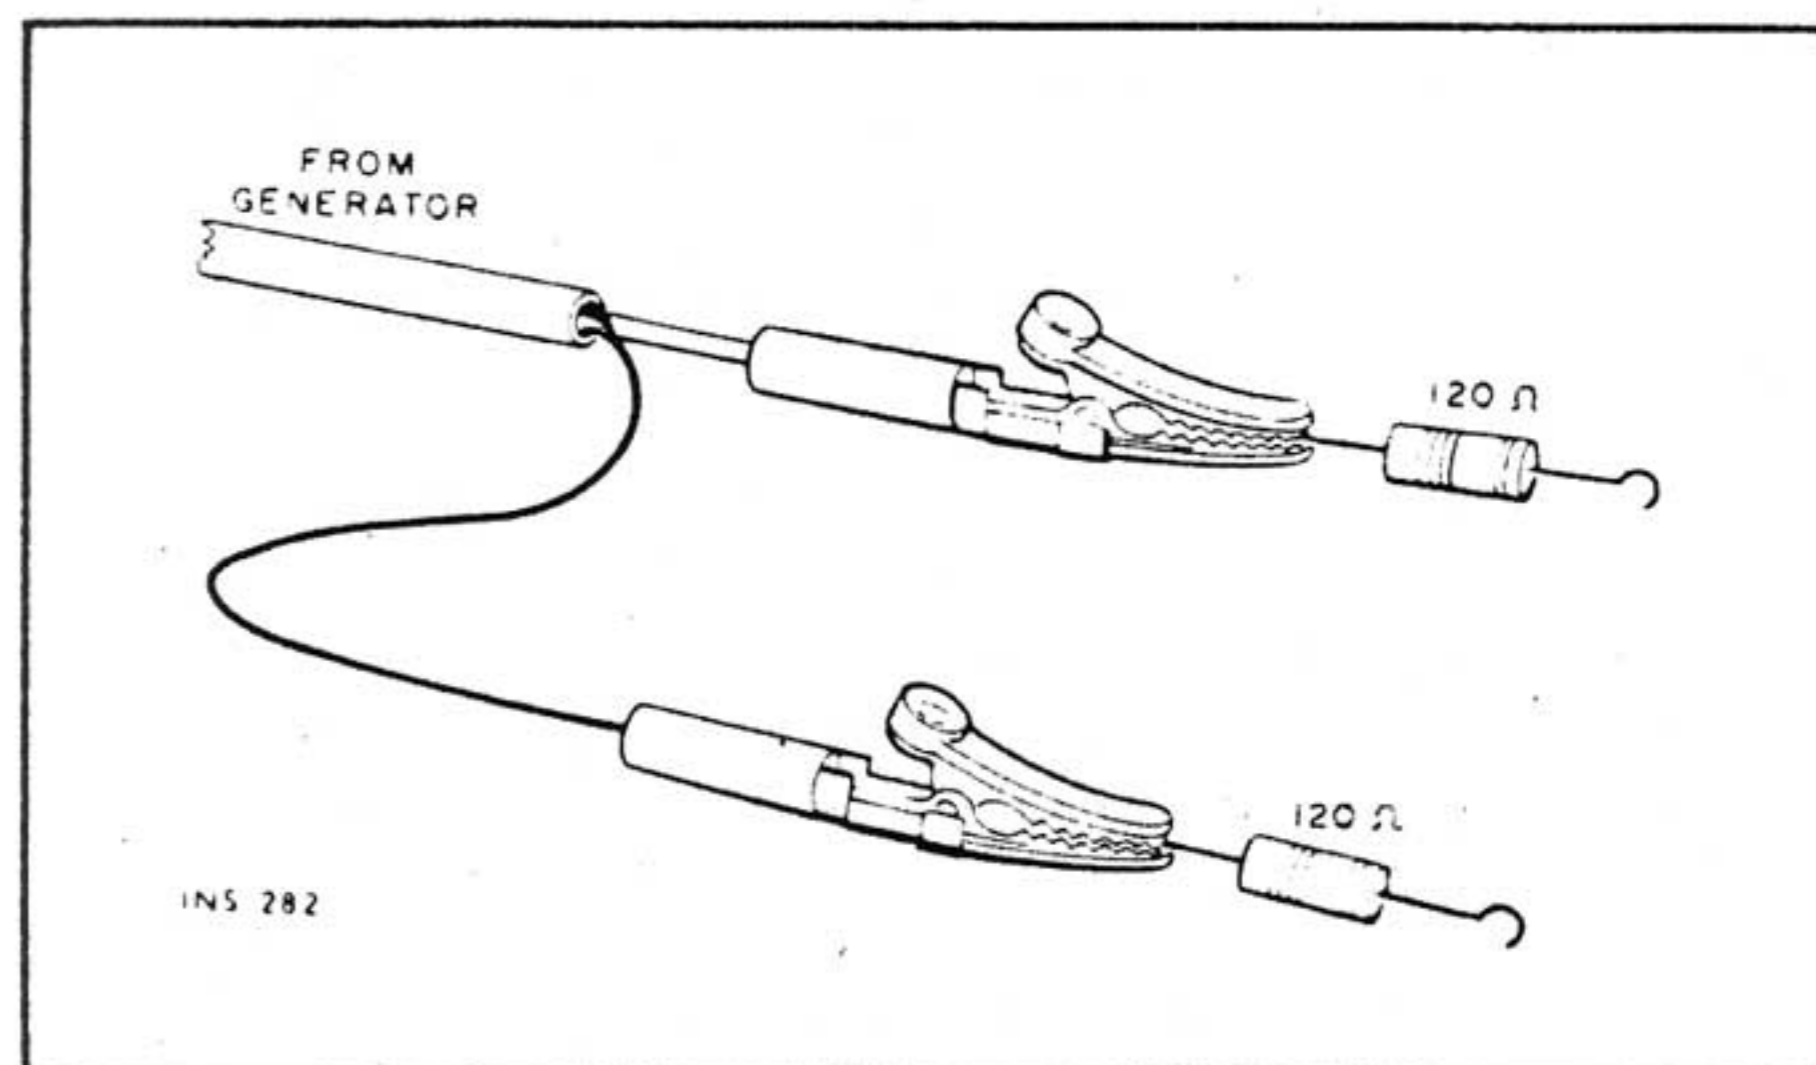
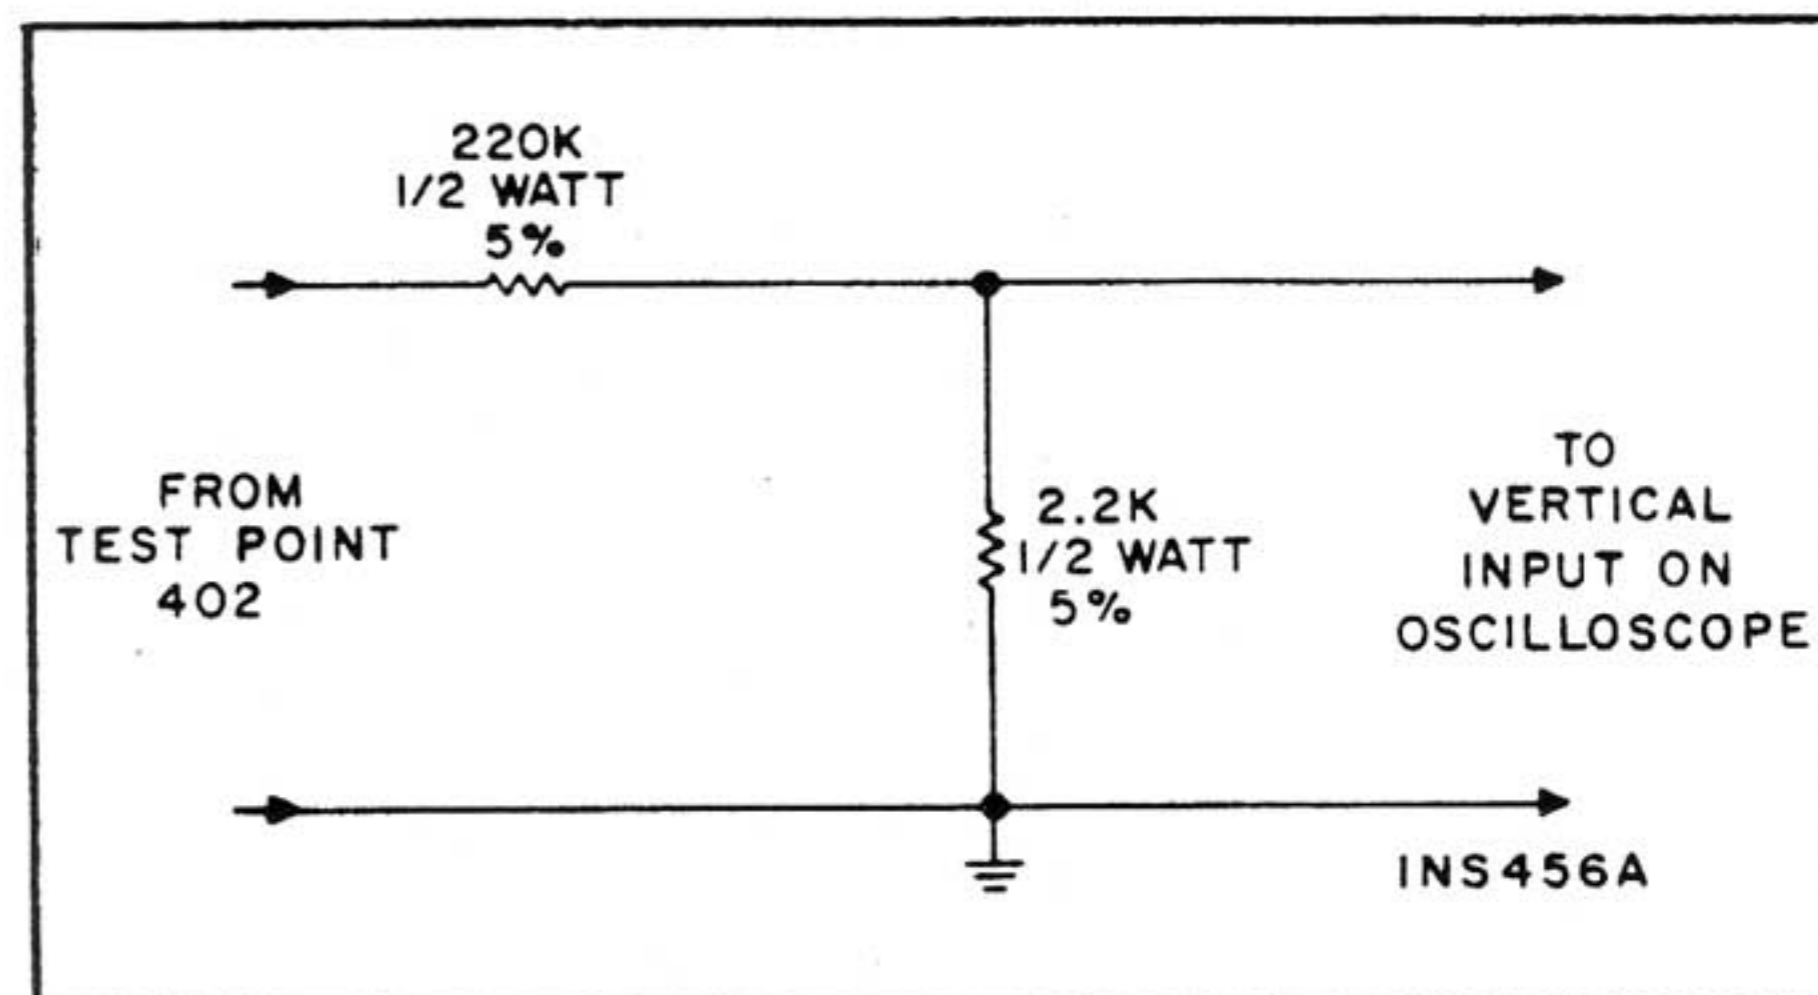

Figure 8. Connections To Provide 300-ohm Generator Output Impedance. Matching Resistors Reduce Generator Voltage By Half At Antenna Terminals.
Figure 11. Voltage Divider Probe.
(2) Connect an accurately calibrated DC VTVM to Test Point 701 (pin 7M on Muting board).
(3) Set dial pointer to 2.3 on logging scale. Adjust R4 MANUAL TUNING pot. (fine adjustment) for 5.63V indication on DC VTVM. Disconnect DC VTVM from Test Point 701 (pin 7M).
(4) Connect an FM generator to the FM ANTenna terminals. Use a 120-ohm composition resistor in series with each lead from the generator (see Figure 8).
(5) Connect a scope and an AC VTVM to either the LEFT or RIGHT RCDR OUT jack.
(6) Modulate FM generator with 400Hz, ± 75 kHz deviation. Set generator frequency to 90MHz. During alignment, adjust generator output as low as possible.
(7) Align (oscillator coil) L754 first, then (RF transformers) L753, and L752, and (antenna coil) L751 for maximum indication on AC VTVM and oscilloscope.
(8) Set generator frequency and dial pointer to 106MHz. Align (oscillator trimmer) C769 first, then (RF trimmers) C768, and C763, and (antenna trimmer) C754 for maximum indication on AC VTVM and oscilloscope.
(1) Connect an FM generator to the FM ANTenna terminals. Use a 120-ohm composition resistor in series with each lead from the generator (see Figure 8).
(2) Set MANUAL TUNING dial pointer to zero (0) calibration mark on logging scale. Set FM generator frequency to receiver frequency.
(3) Connect a scope and an AC VTVM to either the LEFT or RIGHT RCDR OUT jack.
(4) Modulate FM generator with 400 Hz, ± 75 kHz deviation.
(4) Connect scope vertical input to either LEFT or RIGHT RCDR OUT jack. Disconnect DC VTVM from pin 9P and reconnect to pin 9V. Connect a second DC VTVM to pin 9A (on AUTOSCAN board).
(5) Connect an FM generator to the FM ANTenna terminals. Use a 120-ohm composition resistor in series with each lead from the generator (see Figure 8). Modulate generator with 400 Hz, ± 75 kHz deviation. Set generator frequency to 88 MHz, and output level to 1,000 μ V.
(6) Press in right (upscale) AUTOSCAN TUNING pushbutton momentarily (release immediately after pushing in). AUTOSCAN circuit should tune receiver to FM generator signal and sine wave should appear on scope.
(7) Carefully adjust HOLD CONTROL pot. R916 (on AUTOSCAN board) for maximum reading on second DC VTVM (+3.5V to 4.5V on pin 9A). Note that first DC VTVM should indicate 0 volt on pin 9V when second DC VTVM indicates maximum voltage on pin 9A. Signal trace on scope should be clean sine wave.
(8) Reduce FM signal generator output level to 15 μ V. Sine wave on scope should remain locked in.
(9) Press in left (downscale) AUTOSCAN TUNING pushbutton momentarily, to make signal disappear. Press in right (upscale) pushbutton momentarily. AUTOSCAN circuit should retune receiver to FM generator signal and sine wave should reappear on scope.
(10) Set FM signal generator frequency to 108 MHz, and output level to 1,000 μ V. Press in right (upscale) pushbutton until AUTOSCAN circuit tunes to generator frequency. Repeat steps (8) and (9).
(1) Connect RF output of multiplex generator to the FM ANTenna terminals. Use a 120-ohm composition resistor in series with each lead from the RF output (see Figure 8). Set MPX generator for external modulation with 19 kHz pilot carrier, ± 7.5 kHz deviation (10% pilot, no audio). Tune receiver to RF frequency of MPX generator.
(2) Connect DC VTVM to Test Point 403 (pin 4G on AM/FM IF, MPX board).
(3) Adjust cores of Z401 and Z402 (on AM/FM IF, MPX board) for maximum reading on DC VTVM.
(4) Connect output of audio generator, set for 1 kHz, to the external modulation input of MPX generator and to external sync input of an oscilloscope. Adjust audio generator level for composite signal ± 75 kHz deviation (10% pilot, 90% audio).
(5) Connect AC VTVM to LEFT RCDR OUT jack. Connect scope through voltage divider probe (see Figure 11) to Test Point 402 (4K on AM/FM IF, MPX board).